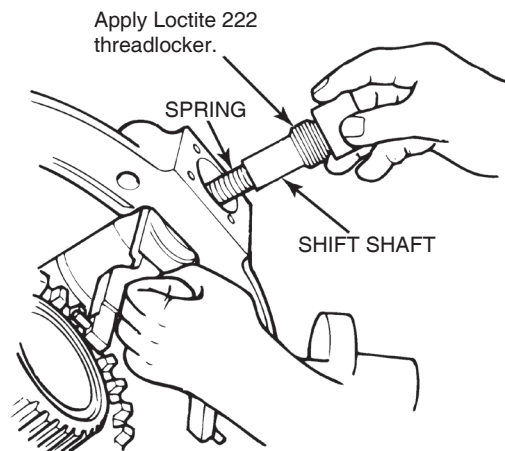

Figure 6.27
6. Hold the shift fork in position. Install the shift shaft spring into the shift shaft opening in the differential, through the shift fork bore and into the bore for the shift shaft spring. Figure 6.27.